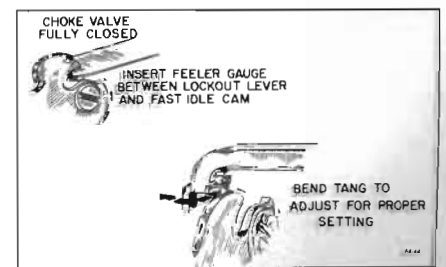

Figure 64-44—Secondary Lock-Out Adjustment
5. Secondary Lock-Out Adjustment. Close choke valve so that secondary throttle lock-out tang is on lock-out step of fast idle cam. Check clearance between tang and step. See Figure 64-44.